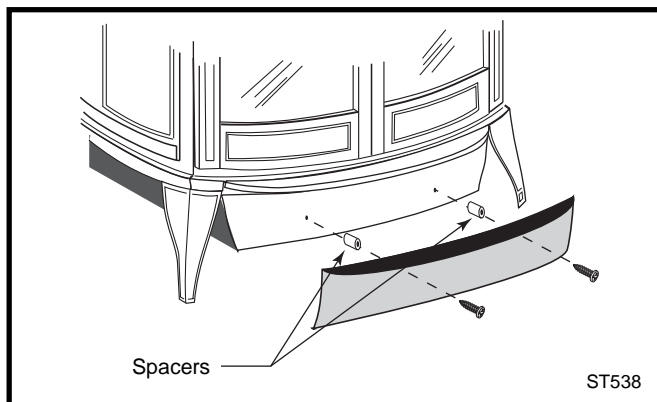

Fig. 18 Install the ashdoor heat shield.
2. Insert the screws through the ash door heat shield (from the painted side), place the 5/16" spacers over the screws, and carefully thread them back into the original holes. (Fig. 18) The curved lip should be upward, under the ashlip of the stove.